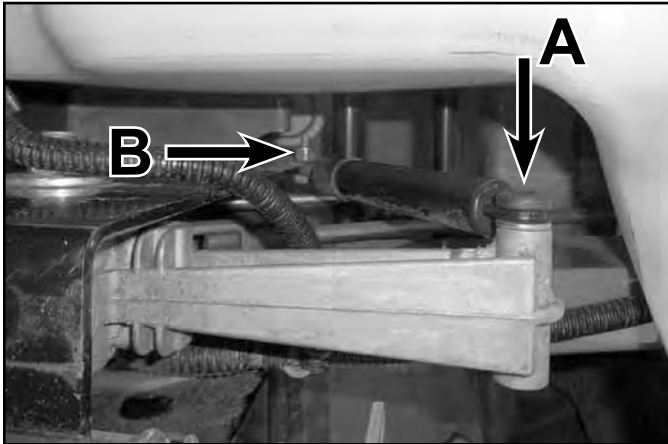

Fig. 016
3. Remove the (1) shoulder bolt (A) and washer that secures the upper motion control damper eyelet to the actuator arm.
4. Remove the nut and bolt (B) that secure the lower motion control damper eyelet to the control box (Fig. 016).